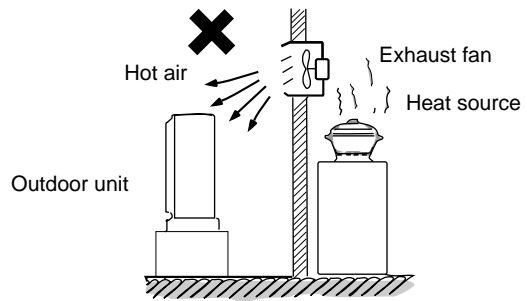

Fig. 4a
- heat sources, exhaust fans, etc. (Fig. 4a)